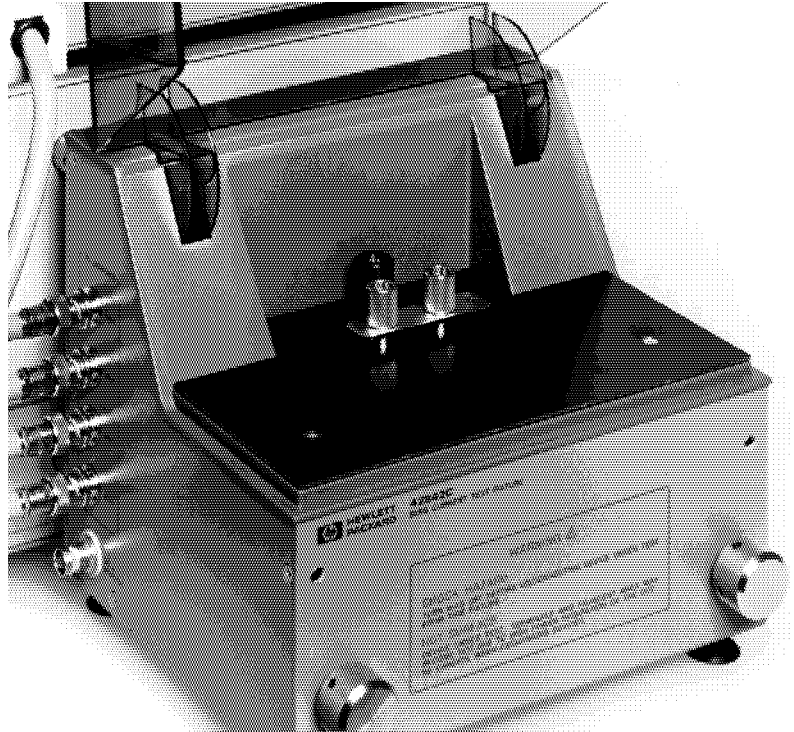

Figure 3-24. Connecting the Furnished Shorting Bar
- f. Connect furnished shorting bar to the 42842C to set up the SHORT condition as shown in Figure 3-24.